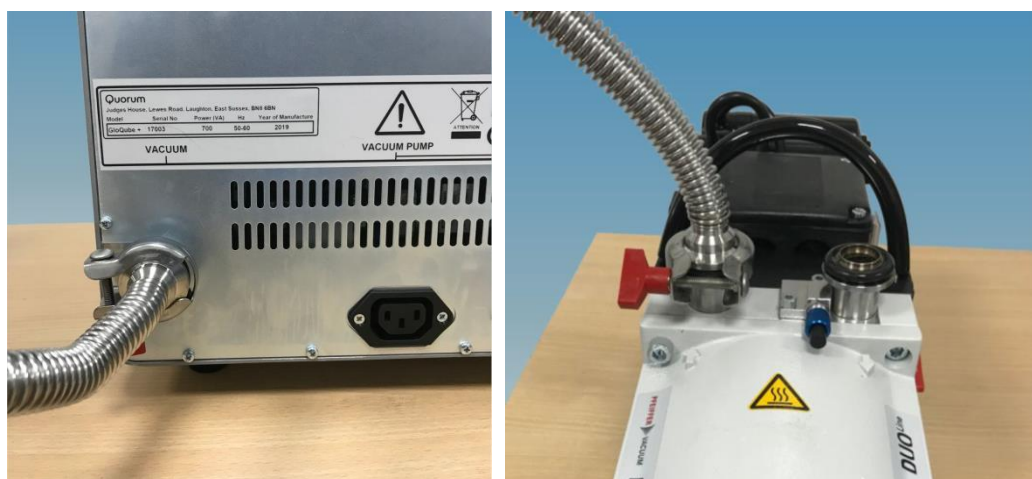

Figure 2-4. Vacuum hose connection to (left) GloQube Plus and (right) rotary pump
1. Using the KF 16 clamp and 'O' ring carrier provided, attach the stainless steel vacuum hose to the unit as shown in Figure 2-4.
2. Connect the other end of the hose to the inlet side of the vacuum pump (↑) using the KF 16 clamp and 'O' ring carrier/filter provided (Figure 2-4).